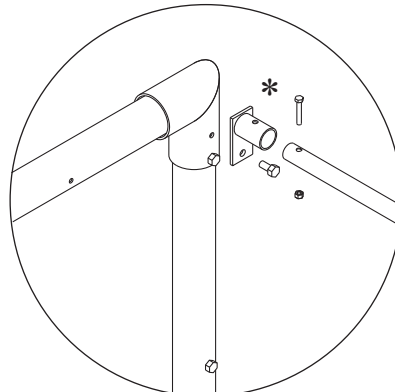

Fig.5 International Net Supports
* For Anti-vandal football Goals the net support bracket fits upside down to the one shown in Fig 5.